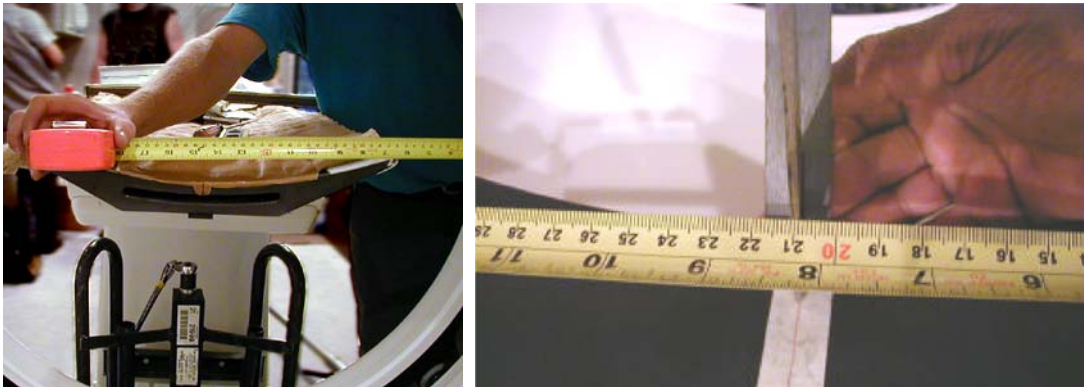

Figure 1-33 Measure Distance
- 1.) Carefully measure from cradle center line to collimator faceplate. It may be helpful to use a square or straight edge to help determine the measured distance. See Figure 1-33.
- 4.) Carefully measure from cradle center mark to collimator faceplate. It may be helpful to use a square or straight edge to help determine the measured distance. See Figure 1-33.